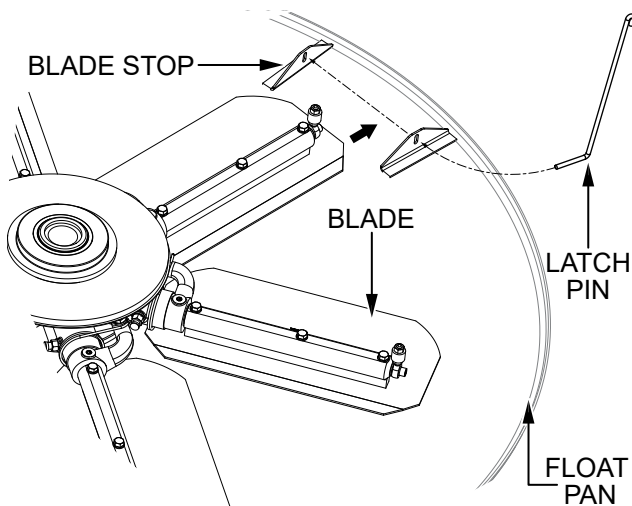

Figure 34. Float Pan Installation (Latch Pins)
2. Lift the trowel just enough to slide a **float pan** under the **blades**. Lower the finisher onto the pan with the blades between the **blade stops** (Figure 34).
3. Route a **latch pin** through the holes in the blade stops as shown in Figure 34.